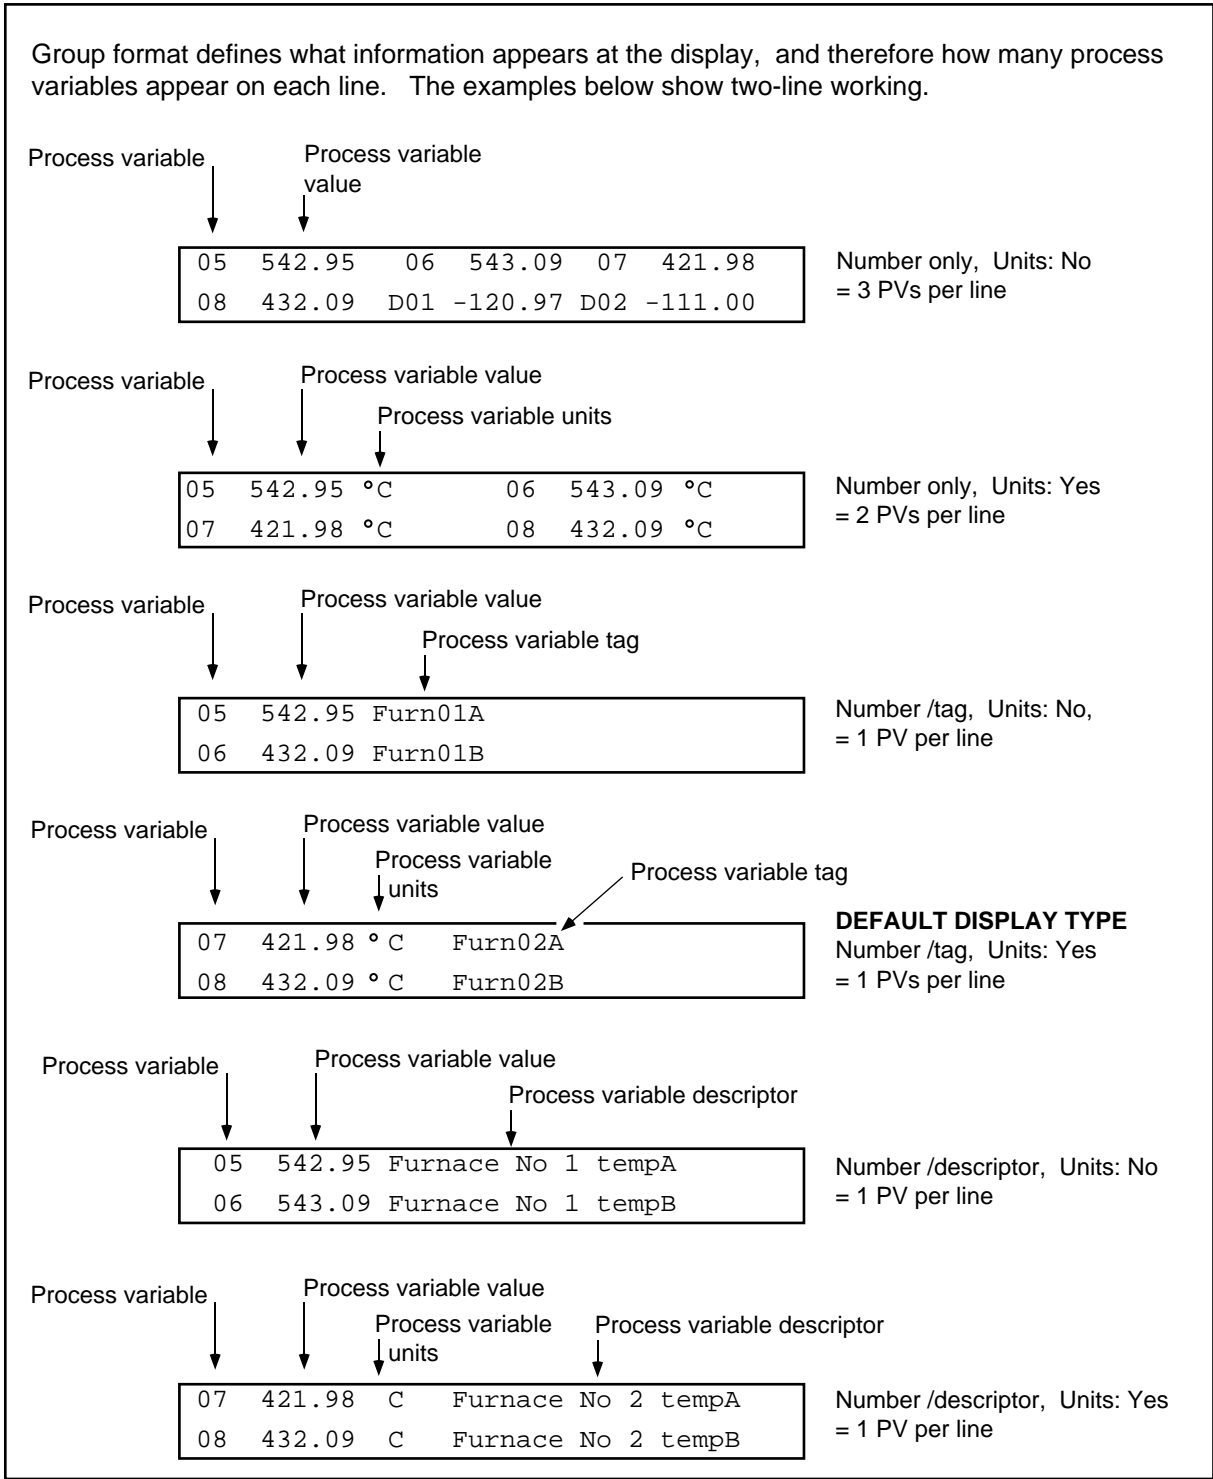

Figure 3.2.1a Numeric indication modes
Operation of the DISPLAY softkey calls the DISPLAY menu page. This page contains a process variable (PV) display (figures 3.2.1a and b) and the softkeys described below. After approximately 3 seconds, the PV number changes to the next highest in the group, unless HOLD has previously been selected (in which case the softkey legend is SCROLL, not HOLD).
**Numeric** Up to three PVs can be displayed as digital values on each display line, depending on the format selected for the group. This group format (section 4.5) defines whether units and / or tags and / or descriptors appear alongside the value, and thus how many values can appear on each line (figure 3.2.1a).